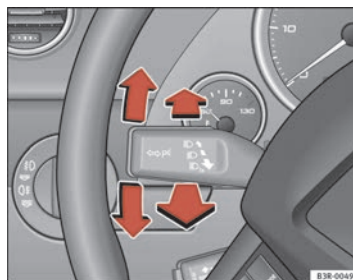

Fig. 92 Turn signal and main beam headlight lever
- Move the lever all the way up to indicate right or all the way down to indicate left $\Rightarrow$ fig. 92.